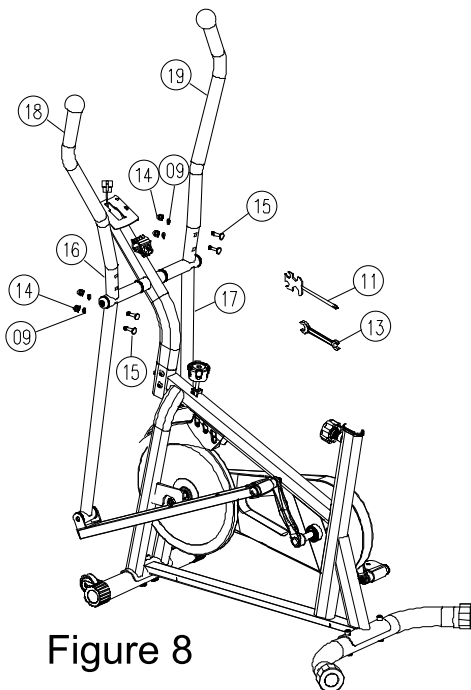

Figure 8
8. Align the Left Handle Grip (Part 18) and Right Handle Grip (Part 19) with the Left Swing Lever (Part 16) and Right Swing Lever (Part 17) respectively. Secure all parts with an M8×40 carriage bolt (Part 15), one $\Phi 9 \times \Phi 16$ curved washer (Part 09) and one M8 end cap (Part 14), as shown in Figure 8.